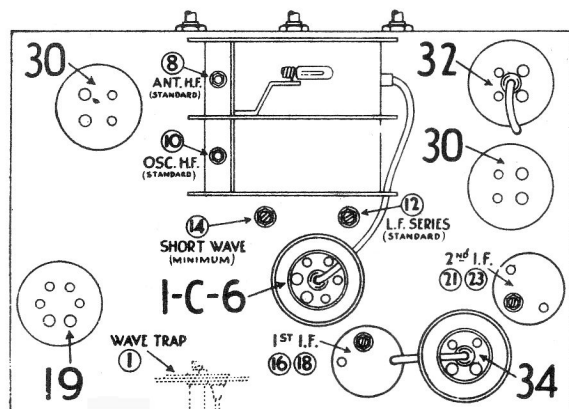
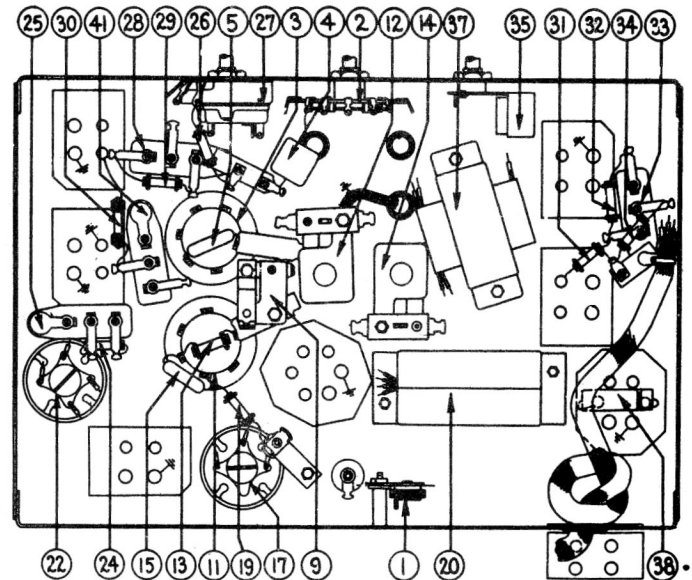

FIG. 2—Locations of Compensating Condensers
FIG. 4—Bottom View of Chassis
Adjustments are then made in the following order; positions of all compensators (except number 9 visible in Fig. 4) are shown in Fig. 2.
K. C., adjust each of the I. F. compensating condensers in turn, to give maximum response in the output meter. If the needle on the meter goes off scale, turn back the attenuator on the signal generator. The two pairs of I. F. compensating condensers are located one pair at the top of each of the two I. F. transformer shields. These are the two metal "cans" near the rear corner of the chassis. Each of the I. F. transformers has a dual compensating condenser mounted at its top, and accessible through a hole in the top of the coil shield. In the dual compensators, the Primary circuit is adjusted by turning the screw; the Secondary circuit is adjusted by turning the hex-head nut. The condenser numbers, referring to Figs. 2 and 3 are ⑩, ⑪, ⑫ and ⑬.
Replace the grid clip upon the Detector-Oscillator tube (Type 1C6). Connect the output leads from the 024 signal generator directly to the antenna and ground terminals of the receiver. Set the Wave-Band Switch of the receiver to the standard broadcast band (left position) and the Station Selector at the low frequency (600 K. C.) end. Adjust the Wave Trap condenser to give MINIMUM response to a 460 K. C. signal from the signal generator. The Wave Trap ① is located at rear and underneath the chassis, and is shown in Figs. 2 and 4. It is reached from the rear of the chassis, by inserting the fibre wrench through the hole near rear center of sub-base.
H. F. end: Set signal generator at 1500 K. C. and dial at 150 (lower scale). Now adjust condensers ⑧ (Antenna) and ⑩ (Oscillator H. F.) to get maximum response. These condensers are located on the tuning condenser assembly and visible in Fig. 2.
L. F. (series): Turn dial to 60 and set signal generator at 600. Adjust condenser ⑫ for maximum output. This is reached from the top, through hole in chassis at rear of tuning condenser (see Fig. 2).
of set. Turn the wave band switch to the right, and the 091 signal generator "on." H. F. or maximum: Turn the dial of the set to about half way between 14 and 15 megacycles (top scale) and you should there pick up the 4th harmonic (14.4) of the 3.6 M. C. signal. Adjust the S. W. (maximum) compensator ⑥ (see Fig. 4) to give maximum response in the output meter. This compensator is reached from underneath the chassis.
S. W. (minimum): Turn dial of set to a little more than 7 megacycles at which point the second harmonic of the signal generator (7.2 M. C.) should be heard. Adjust condenser ⑭ (S. W. series) for maximum response. This condenser is reached from above, through hole in top of chassis (see Fig. 2).
*Do not show in Fig. 4.